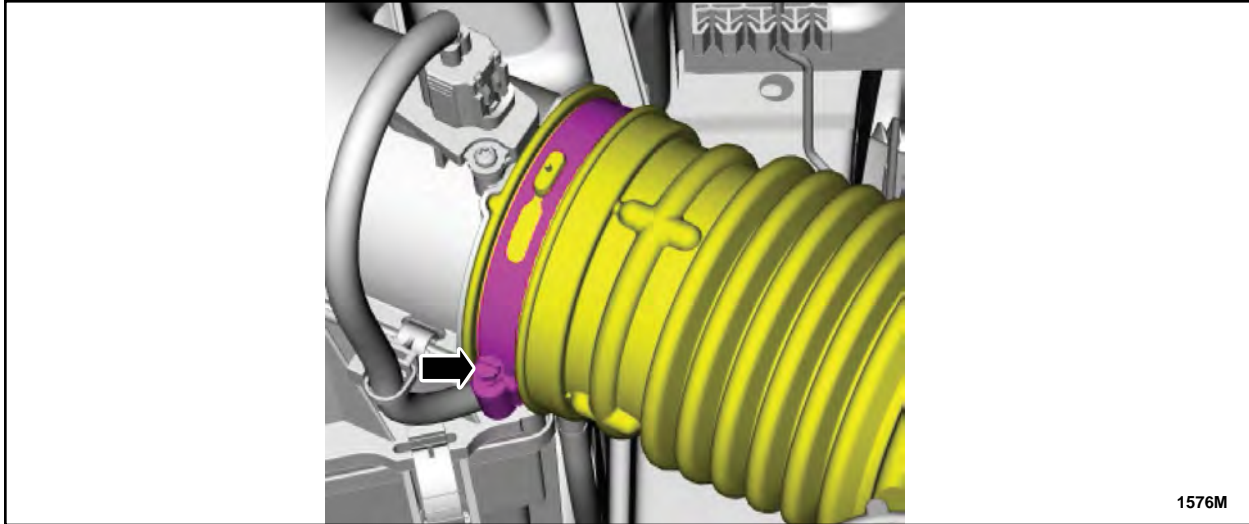

FIGURE 5
6. Loosen the clamp and disconnect the air filter outlet pipe from the air filter cover. See Figure 5.
15. Connect the air filter outlet pipe to the air filter cover and tighten the clamp. See Figure 5.